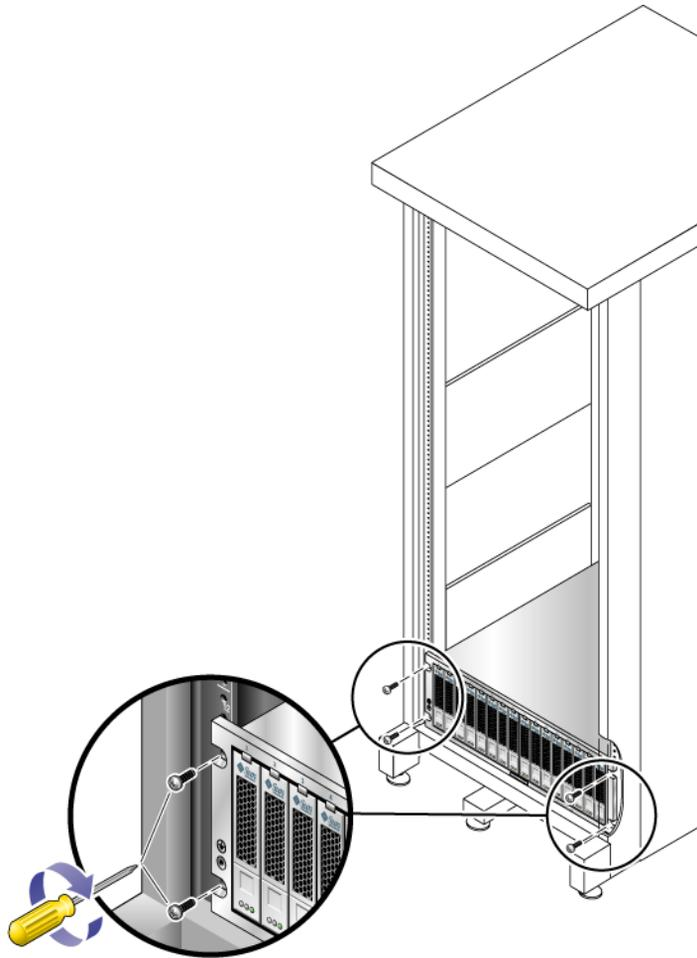

FIGURE 2-19 Securing the Tray to the Front of a Sun Rack 900/1000 Cabinet
- For a Sun Rack 900/1000 cabinet, use the #3 Phillips screwdriver to install and tighten four M6 screws (two per side) to secure the tray to the front of the cabinet (FIGURE 2-19).